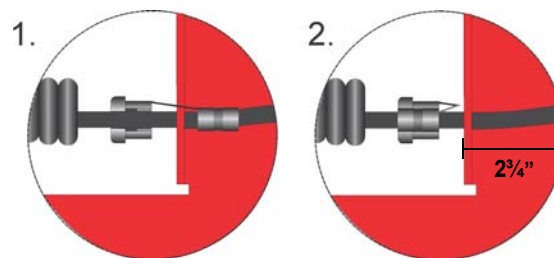

Figure 8 Strain Relief Clip Installation
3. Attach the strain relief clip to the microphone cord. The strain relief clip should have about 2³/₄” length of the microphone cord through it. See Figure 8.